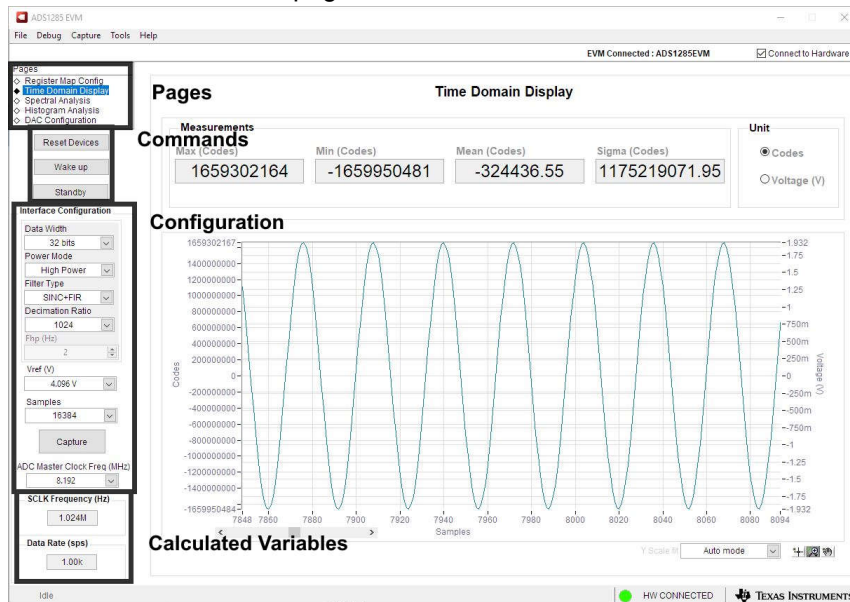

Figure 1-2. EVM GUI Global Input Parameters
5. As shown in Figure 1-2, use the *Configuration* section of the GUI for a specific clock input, desired data rate, and number of samples. Then, use the **Capture** button to collect data. Section 4.2.1 details the EVM GUI global input parameters and the various pages within the GUI.